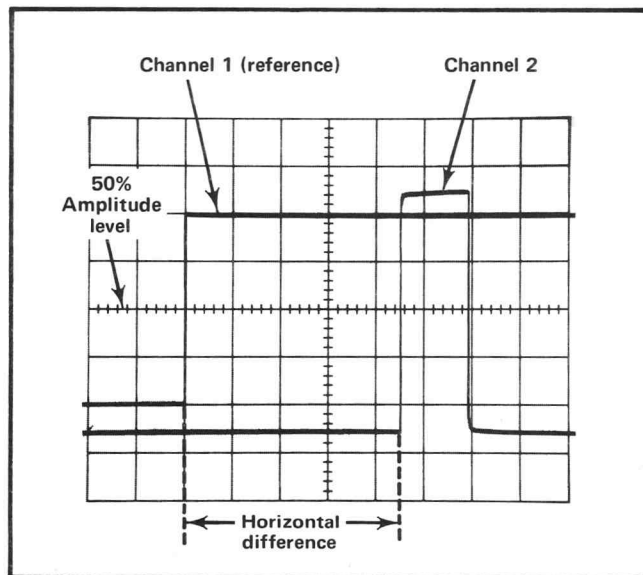

Fig. 5. Measuring time difference between two pulses.
11. Measure the horizontal difference between the Channel 1 waveform and the Channel 2 waveform (see Fig. 5).
Example. Assume that the TIME/DIV switch is set to $50 \mu\text{s}$ and the horizontal difference between waveforms is 4.5 divisions (see Fig. 5).